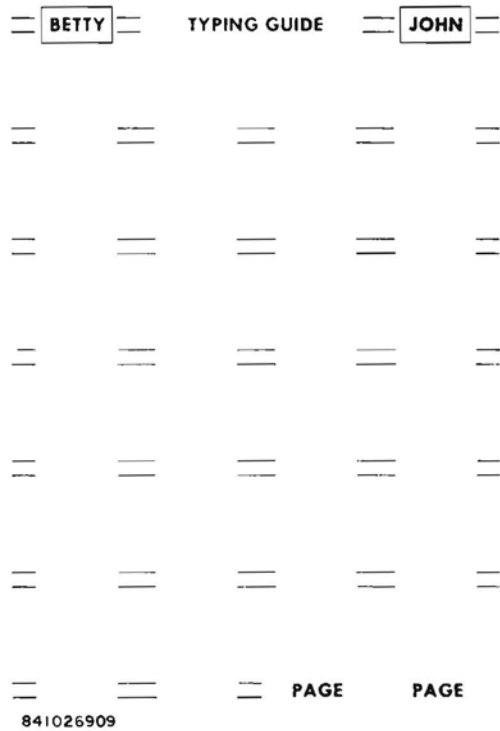

Fig. 17—841026909 (E-6873) Designation Tabs
**2.28** The CALL DIRECTOR sets equipped with 590- or 650-series keys (Fig. 17) must be modified differently than the newer sets equipped with 635-type keys (Fig. 18).